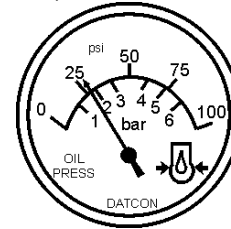

Figure 48. Oil Pressure Gauge
- The engine oil pressure gauge (Figure 48) will indicate the oil pressure of the engine. Under normal operating conditions the oil pressure is approximately 42 to 71 psi. (290~490 kPa).